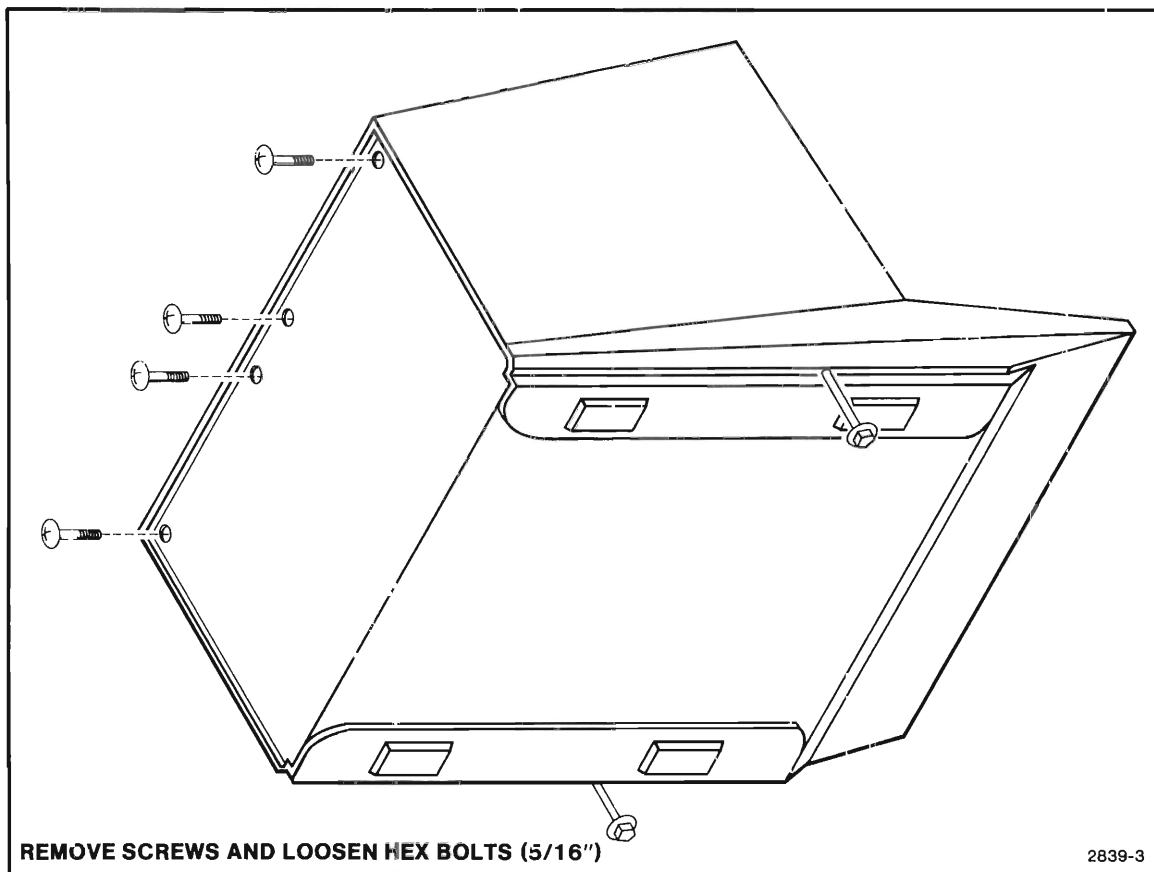

Figure 3-22. 4054 Cover Removal.
1. Unplug the power cord from the rear of the 4054. Using a 5/6" hex driver, loosen the two bolts on the lower sides of the 4054. Use a #2 Phillips screwdriver to remove the four rear bolts that hold the 4054 cover (Figure 3-22).